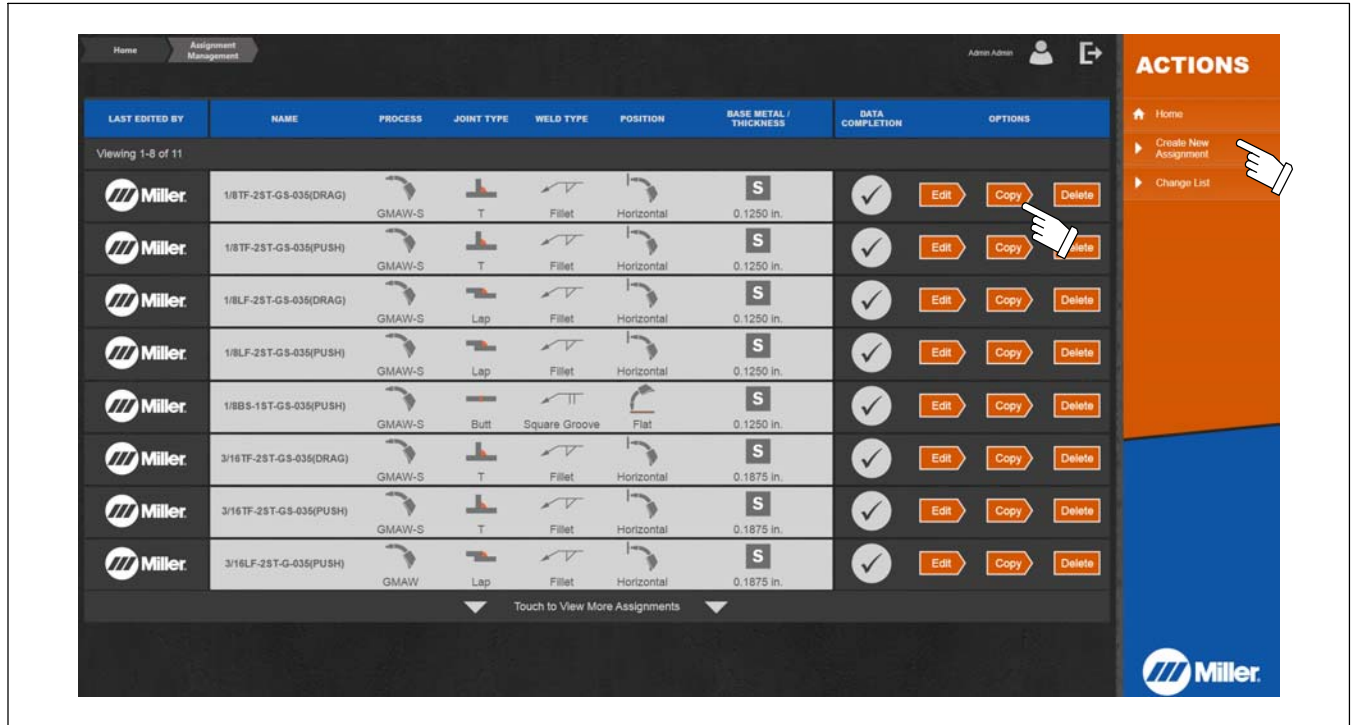

Figure 9-2. Assignment Management Homepage
- To create an entirely new assignment (all required parameters and values must be entered), touch *Create New Assignment* (Figure 9-2). To use an existing assignment as a template for a new assignment (parameters/values are already entered but can be edited), touch *Copy* on an existing assignment similar to the assignment being created.